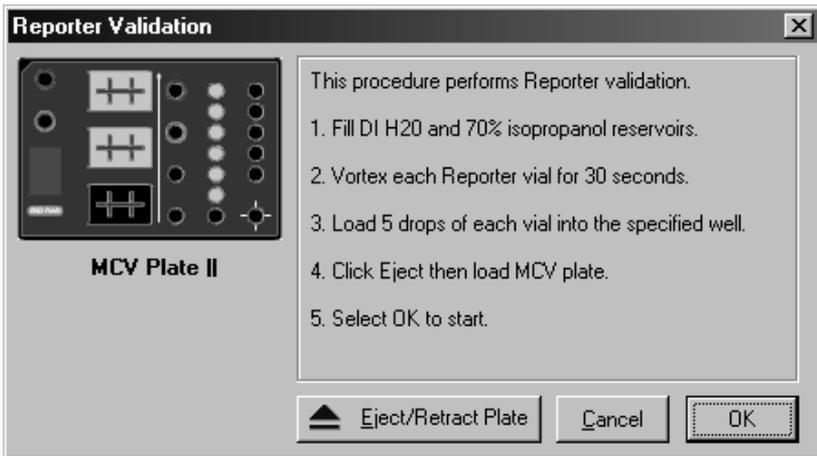

Fig. 8. Reporter validation dialog.
6. Enter the User name and control number. Select classify validation. Select OK. The following dialog box appears. (Figure 8)